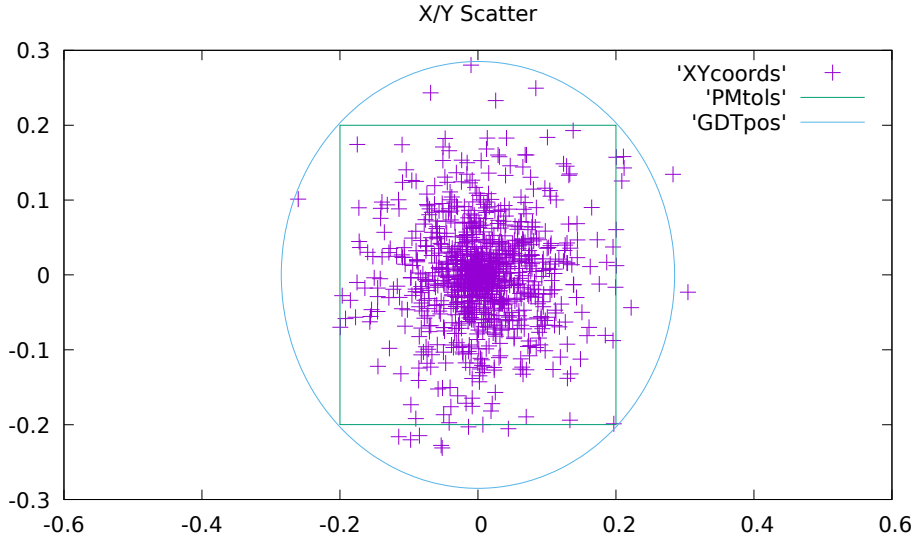
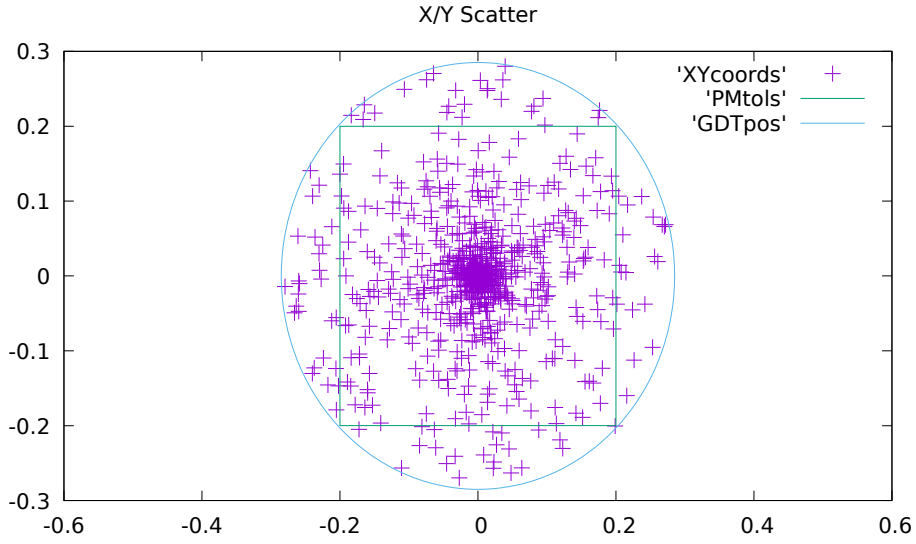
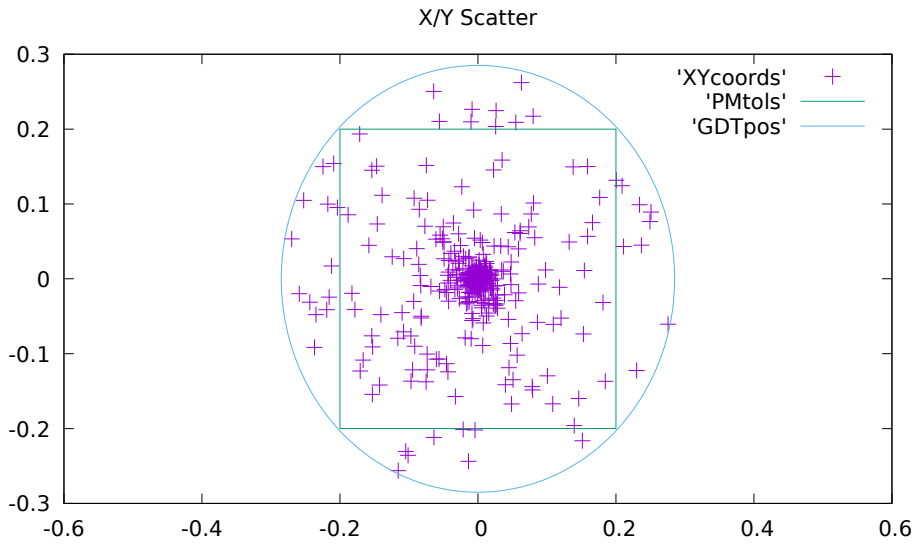

Figure 2: Normal Scattered Data
Figure 3: Exponent Distribution  $R^{2.8}$
Figure 4: Exponent Distribution  $R^9$
The positional tolerance has been calculated as  $\varnothing 0.570$ . On Figure 2, there are 21 holes outside the  $\pm$  tolerance range, out of 1000 total.3
We are evaluating the Normally scattered data in Figure 2 .
1. The first we can do is examine Figure 2 and look for holes located outside  $3\sigma$ .  $3\sigma$  has been arbitrarily set to GD&T positional tolerance, shown as the circle on Figure 2 . 99.7% of the data should be inside the circle, and 0.3% should be outside it. By observation, on most runs of this program, we see that holes are outside the  $3\sigma$  circle.
We have three columns, Normal, Match  $1\sigma$ , and Match  $2\sigma$ . We want to match values from authentic Normal data. Exponent values were punched in and tested. As can be seen from Figure 3 and Figure 4 , the scattered data do not look like Normal scattered data. Exponents can be selected which match certain parts of Normal distribution.
Assume for the moment that the positional tolerance called up is set to the process  $3\sigma$ . It can be seen from Figure 2 that the  $\pm$  tolerance will capture around 98% of the correctly located holes. It is good design practice to ensure that fabrication capability is well within the required tolerances, when ensures that the  $\pm$  tolerances capture even more valid data. This is not a good case for positional tolerancing.
I cannot find this written up anywhere. A quick and dirty way to generate Normal-like distribution is to generate random numbers between zero and one, and take them to some exponent. The exponent values cluster towards zero. As can be seen by comparing the Normal curve (Figure 2 ) with Figure 3 and Figure 4 ), the exponent curves are not that good a model. If you are interested in how many values are out close to the positional tolerance circle, exponent distribution provides a conservative result.